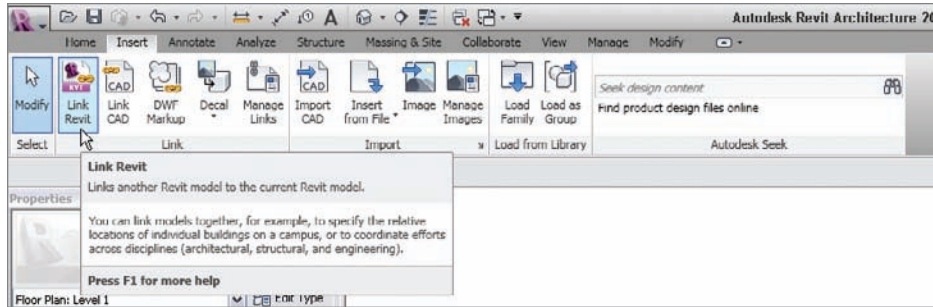

FIGURE 20.1 The Link Revit button on the Link panel of the Insert tab
3. On the Link panel of the Insert tab, click the Link Revit button, as shown in Figure 20.1.